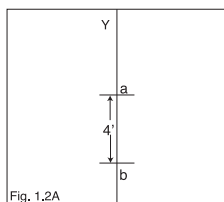

Fig. 1.2A
1.2 To ensure this angle: A) From center point (a) of line Y, measure about 100mm along line Y and mark point (b) (Fig. 1.2A).